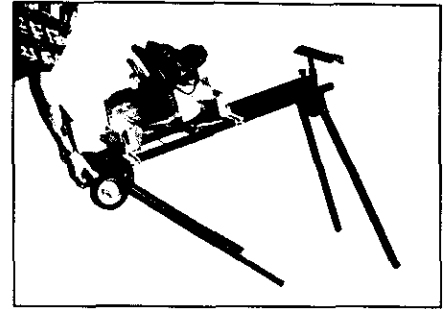

Figure 17
3. Carefully walk the frame and saw down to the floor while allowing the legs to fold under. Once resting on the floor, the legs can be completely folded to engage the snap buttons. Figure 17.